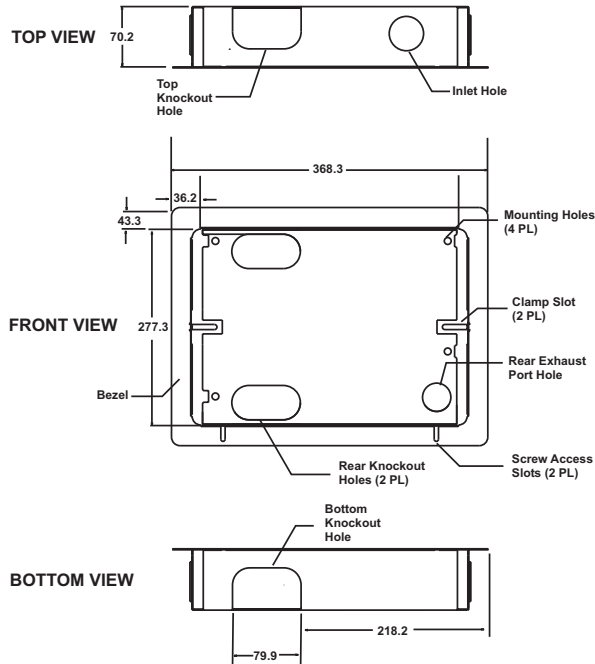

Figure 4-3. Flush Mount Trim-Ring
3. Run two pairs of wires from positions 9-12, 0-24 V, and Ext Disp +/- on termination board in the Detector to the electrical box (see Figure 4-3 for locations on the termination board).